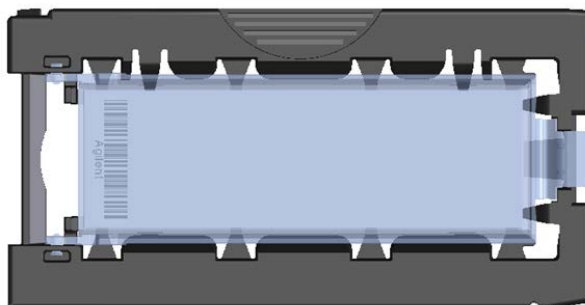

Figure 11 Slide holder – closed with slide
- g** Close the plastic slide cover, pushing down on the tab until you hear it “click”. See Figure 11.